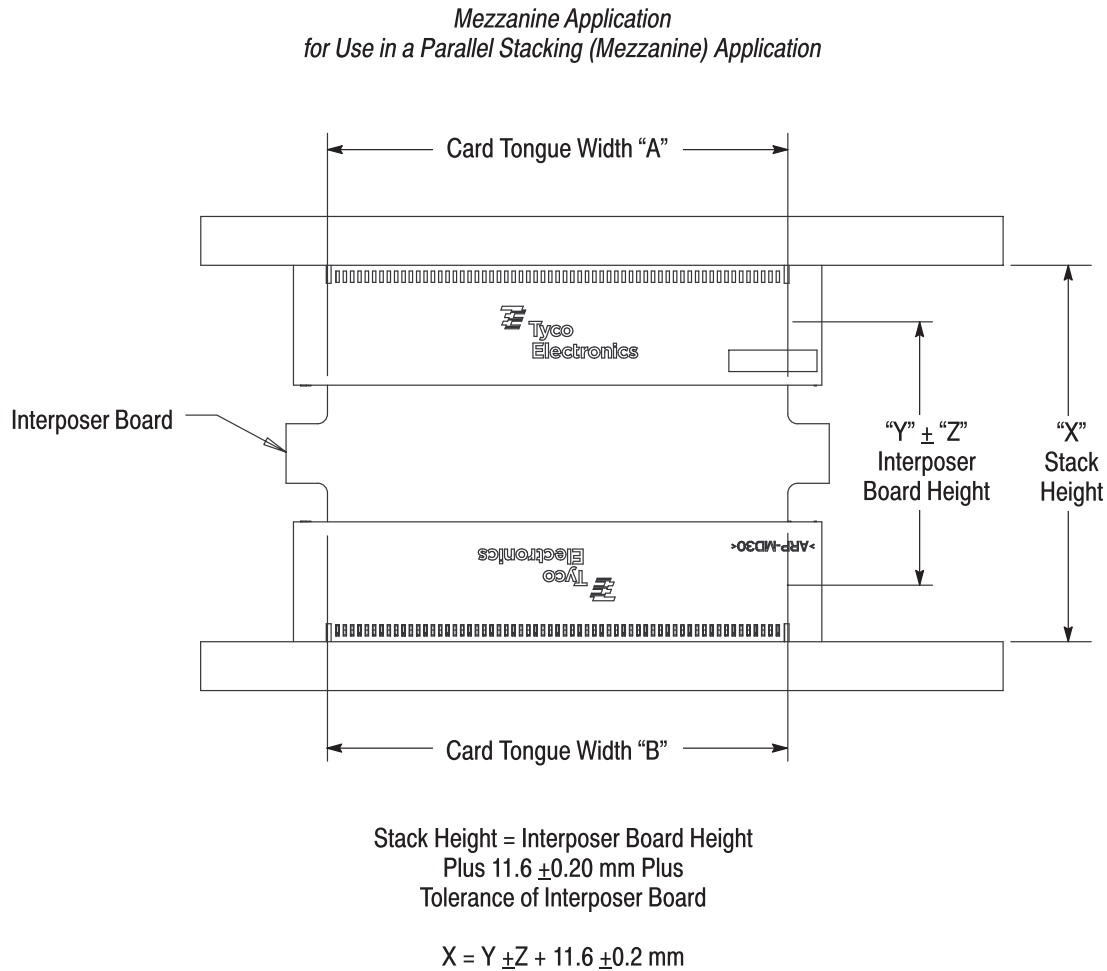

Figure 8
- Added new Paragraph 3.8 and Figure 8 and renumbered
This connector can be used as a stacking connector when used with an interposer card. See Figure 8. The board-to-board stacking height is determined by the interposer board height plus its tolerance plus 11.6 ±0.20 mm. When a single interposer board is used, the interposer card tongues can be equal in width. When multiple interposer cards are used, the width of card tongue “A” should be 0.05 mm smaller than card tongue “B”.